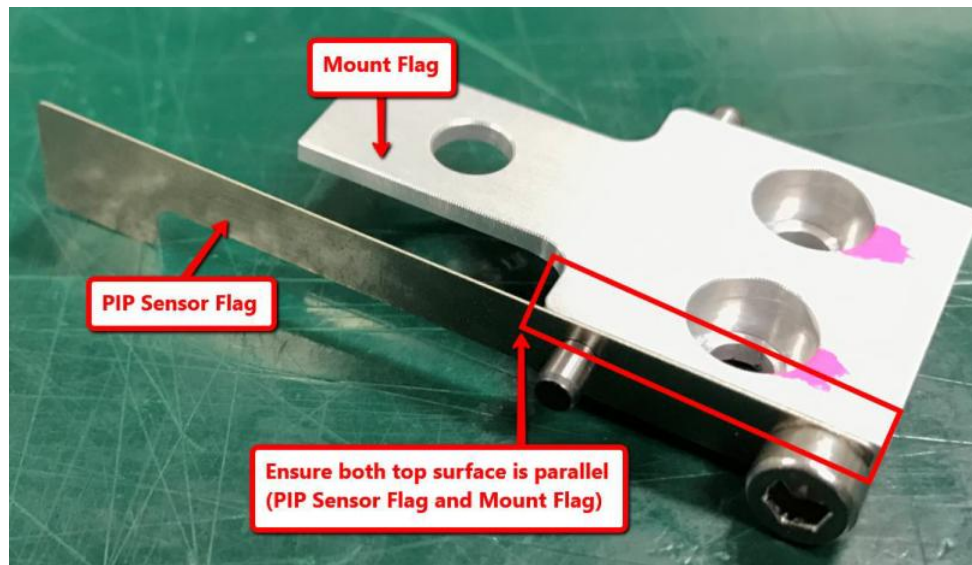

Figure 5 PIP Sensor Flag Alignment
5. Align the PIP Sensor Flag parallel with top surface Mount Flag as Figure 5 & 6 .Tighten SHCS M3x6.